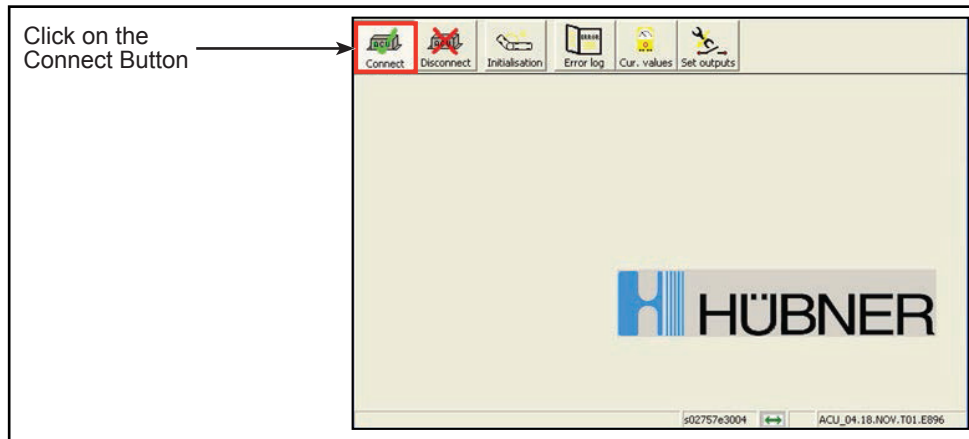

Figure 4 - Typical View of Hubner Software Interface
- 1.9. Click on the **CONNECT** button (see Figure 4), to establish communication with the ACU. The connection module's green light will illuminate to indicate that it is connected.